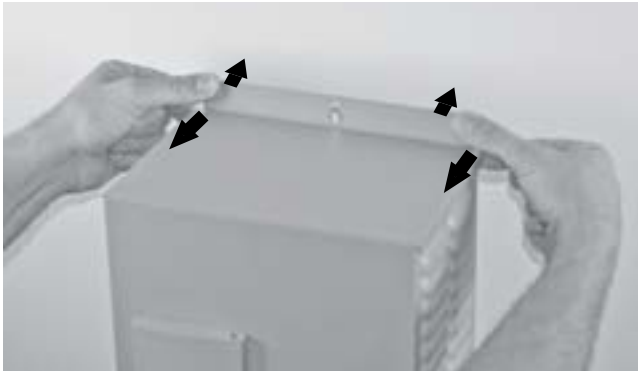

Figure 3 - Separate cover and backplate
2. Push on backplate with thumbs while pulling the cover toward you with index fingers, creating a gap. See Figures 3 and 4.